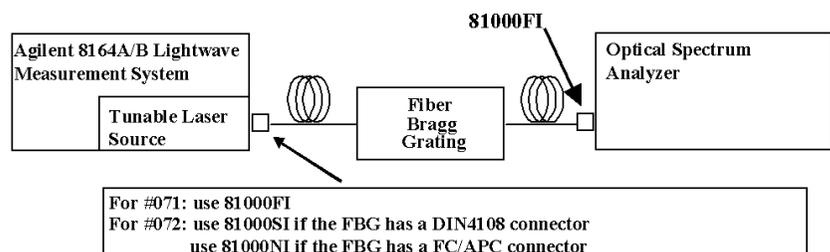

Figure 39 Test Setup for Total Source Spontaneous Emission Test - Low SSE output
1 Set up the equipment as shown in Figure 39:
- 3 Connect the Tunable Laser module to the Optical Spectrum Analyzer as shown in Figure 39 on page 123. Connect one end of the Fiber Bragg Grating to Output 1, the Low SSE output of the TLS and the other to the Optical Spectrum Analyzer.